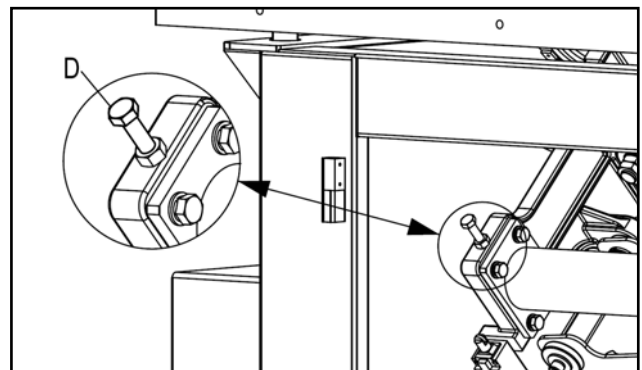

Fig.42
Adjusting screw (D), you can change the fixed stop position at 90 degree, as **Fig.42**.